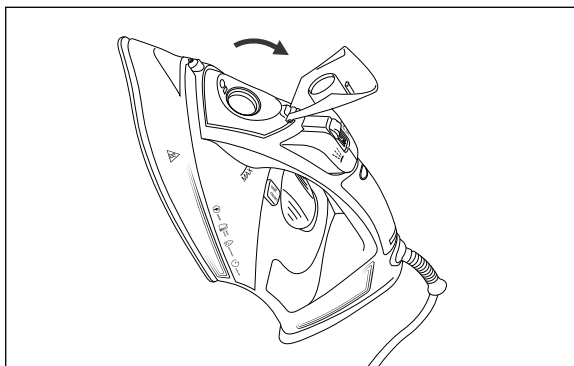

Fig. 3
- 2) Hold the steam iron at an angle in your hand and open the lid of the filling opening **Easy-Fill 2** (see Fig. 3).